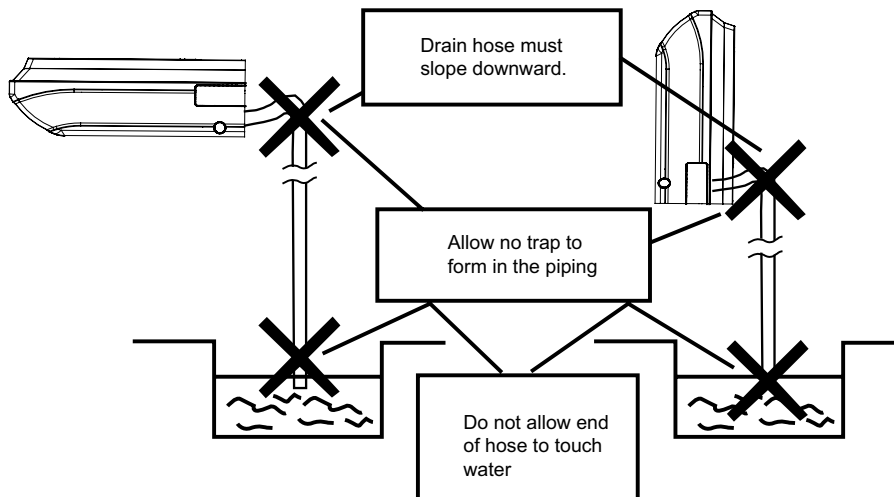

Figure 3-1-32
(4). Connect the drain hose. (Figure 3-1-32)